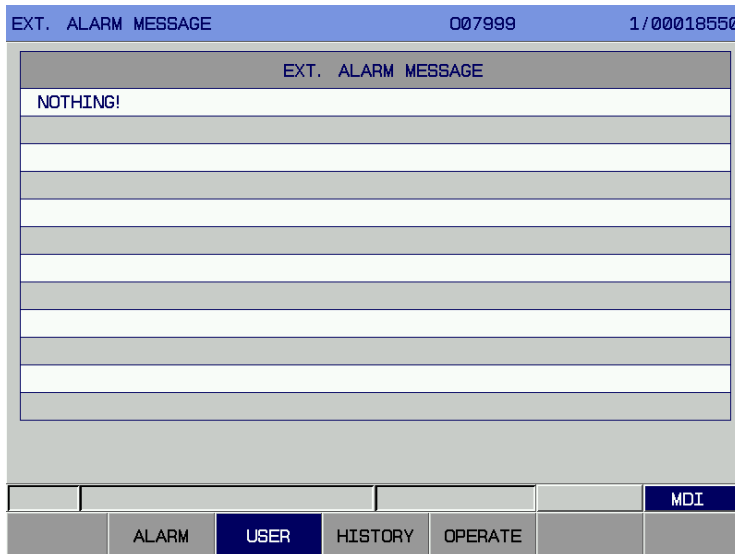

Fig. 3-7-2
2. For user interface, press the [User] soft key in the <Alarm> interface to enter the external alarm interface, as shown in Fig. 3-7-2.